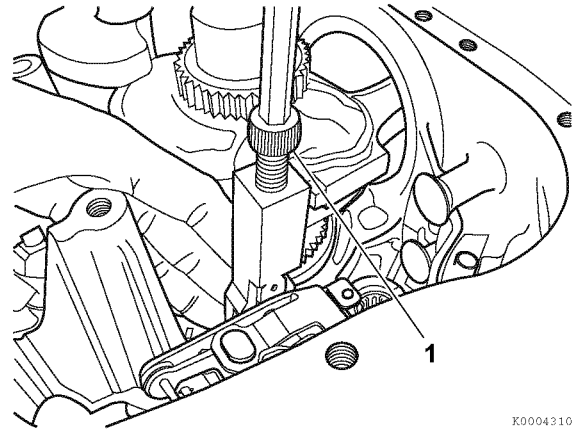

Figure 6-86
5. Tighten the hex cap screw (1, **Figure 6-86**) on top of the tool to push the pin through the governor lever and throttle shaft to remove the pin.